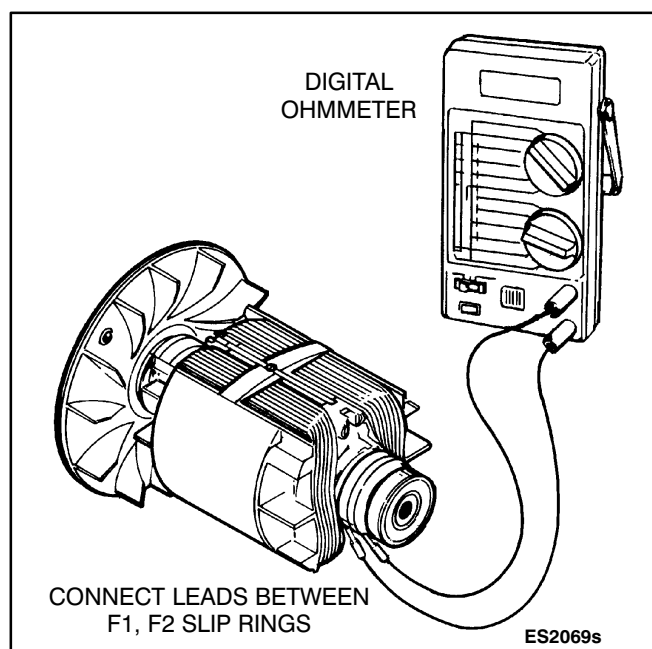

FIGURE 6-3. TESTING ROTOR FOR AN OPEN CIRCUIT
2. Using ohmmeter, check resistance between F1 and F2 by connecting leads between the F1 and F2 slip rings, Figure 6-3.